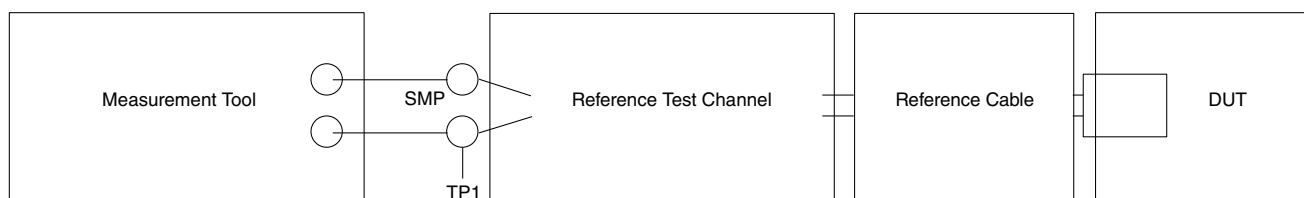

Figure 35. Tx normative setup
1. Measured at compliance TP1. See Figure 35 for details.